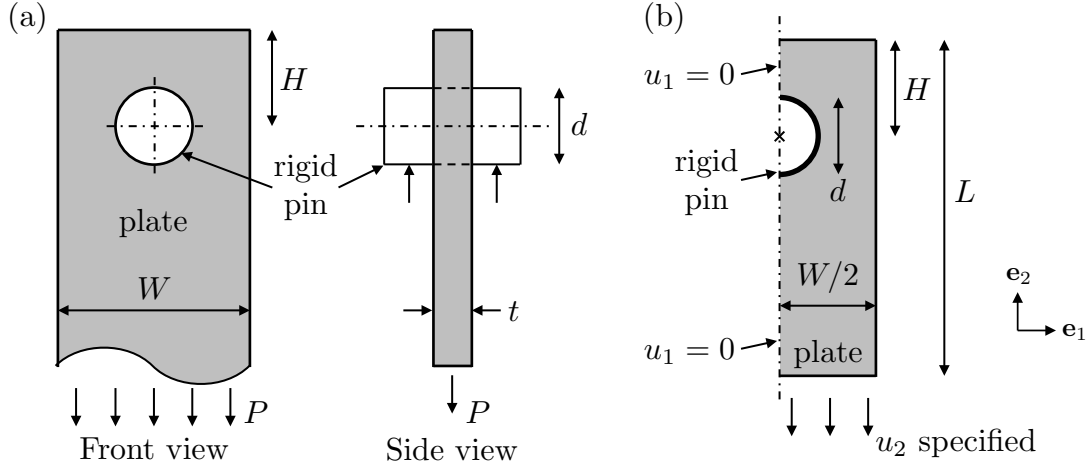

Figure 2: (a) Schematic of a plate loaded in tension by a rigid pin through a hole. (b) Plane stress Abaqus configuration.
In previous exercises, we considered stress concentrations in planar and 3D problems. Stress concentrations can also arise in problems involving contact. We will consider the stress concentration in a plate loaded in tension by a rigid pin through a hole, shown in Fig. 2(a). Defining the nominal stress in this geometry based upon the reduced area of the plate, $\sigma_0 = P/[(W - d)t]$, the stress is raised in the region of the pin, quantified by the stress concentration factor
the plate as being in a state of *plane stress*, model the pin using a rigid body, and exploit the symmetry of the problem, only modeling one half of the plate and pin, as shown in Fig. 2(b). The plate must be taken to be sufficiently long so as not to affect the determination of the stress concentration factor, and to this end, we take $L = 25$ cm. For concreteness, we use material properties for aluminum. In prior stress concentration problems, we applied the far-field load using a traction-type boundary condition; however, it is difficult during a finite-element analysis to establish contact under load-control. For this reason, we apply the far-field load by specifying a downward displacement of $u_2 = 0.8$ mm on the bottom face, as shown in Fig. 2(b).
- Sketch the plate geometry as shown in Fig. 2(b). Make the center of the circle coincide with the origin. Click Done.
- The reaction force RF2 represents half of the total force, P , applied to the pin since we are only considering one half of the plate. The nominal stress, σ_0 , may then be obtained by dividing the total force, P , by the reduced cross-sectional area, $(W - d)t$ with reference to Fig. 2.